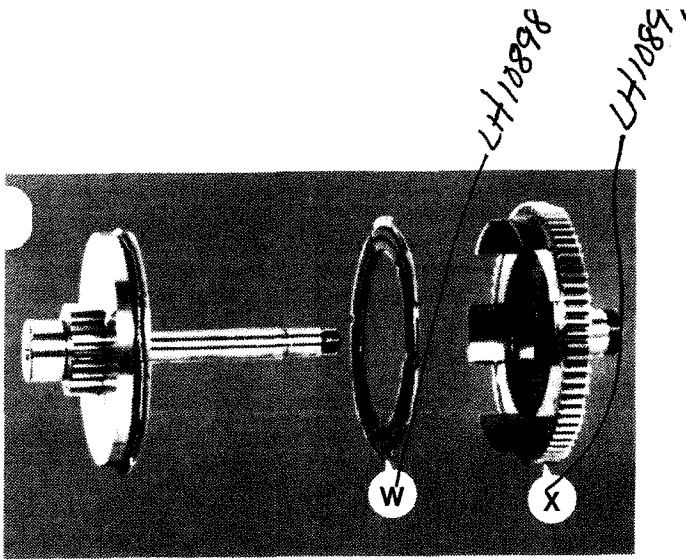

Figure 1.10 - Carriage Clutch Components
- b) Remove 70 tooth gear "X" and clutch plate "W", Figure 1.10 .